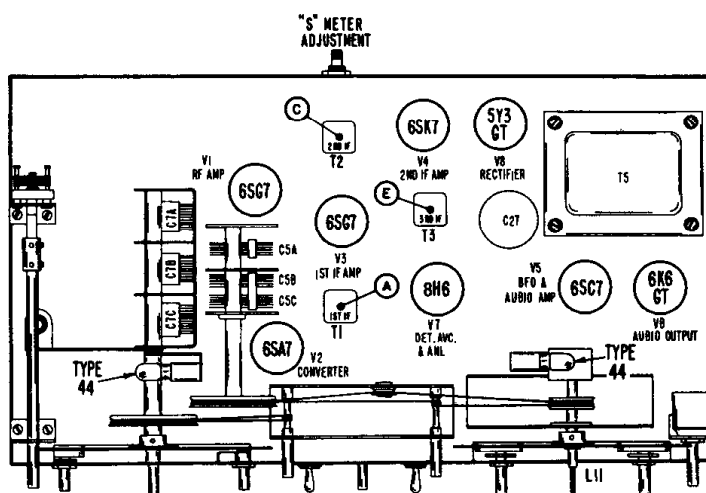

Fig. 7. Top View of Chassis Showing Tube Locations and Alignment Adjustments
To gain access to the tubes and dial lamps, raise the hinged top cover of the cabinet. The tube locations, as well as their functions, are shown in Fig. 7.
3. Turn the receiver on and turn the "S" meter adjustment, that is located on the rear apron of the chassis (see fig. 7), until the pointer indicates zero.
This receiver has been carefully aligned at the factory by specially trained personnel using precision equipment. Alignment of the receiver should not be attempted until all other possible causes of faulty operation have been investigated. Alignment should not be required unless the receiver has been tampered with or component parts have been replaced in the r-f or i-f stages. Alignment should only be made by persons familiar with communications receivers and experienced in their alignment. Refer to Figs. 7 and 8 for location of all alignment adjustments.